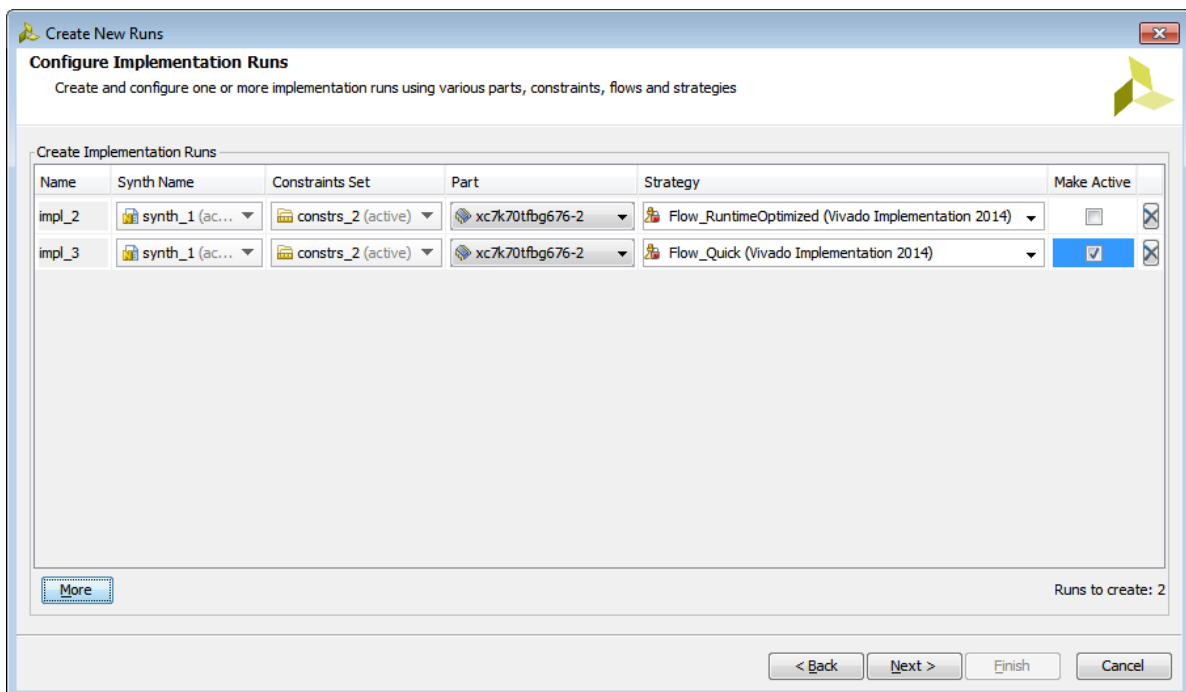

Figure 21: Configure Implementation Runs
6. **Click** the **Make Active** checkbox for `impl_3`, as seen in Figure 21, to make it the active run.